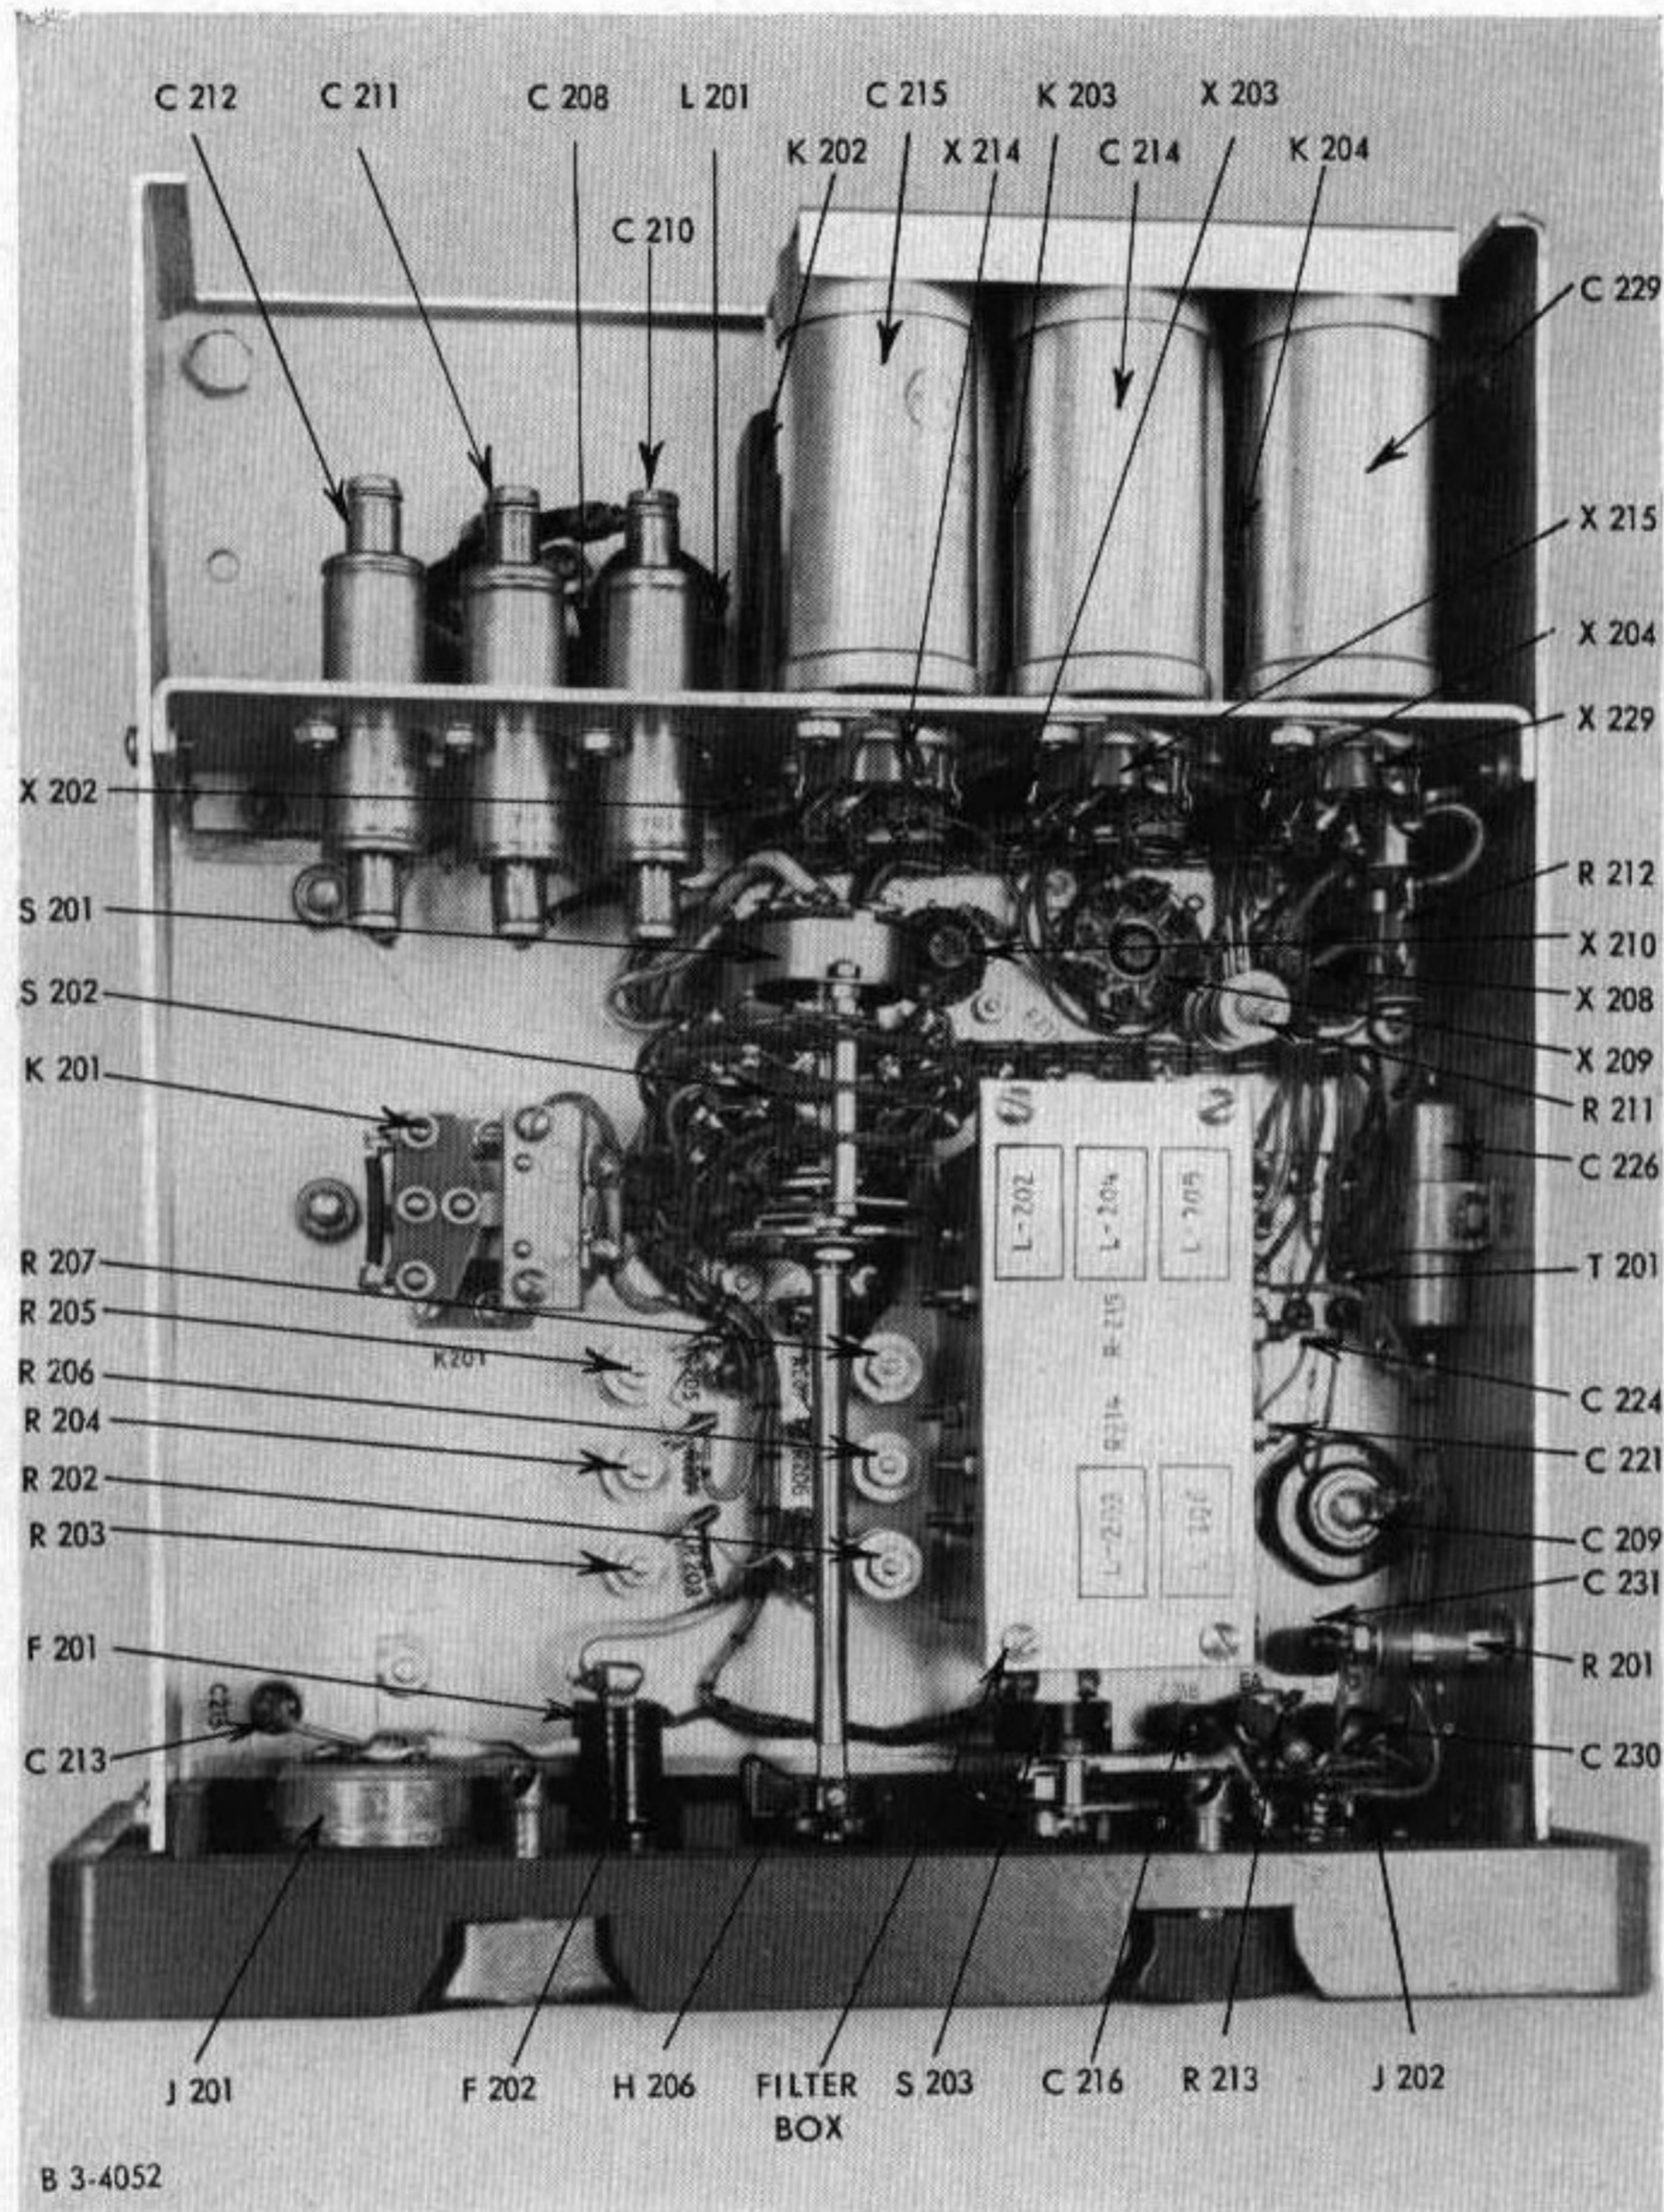
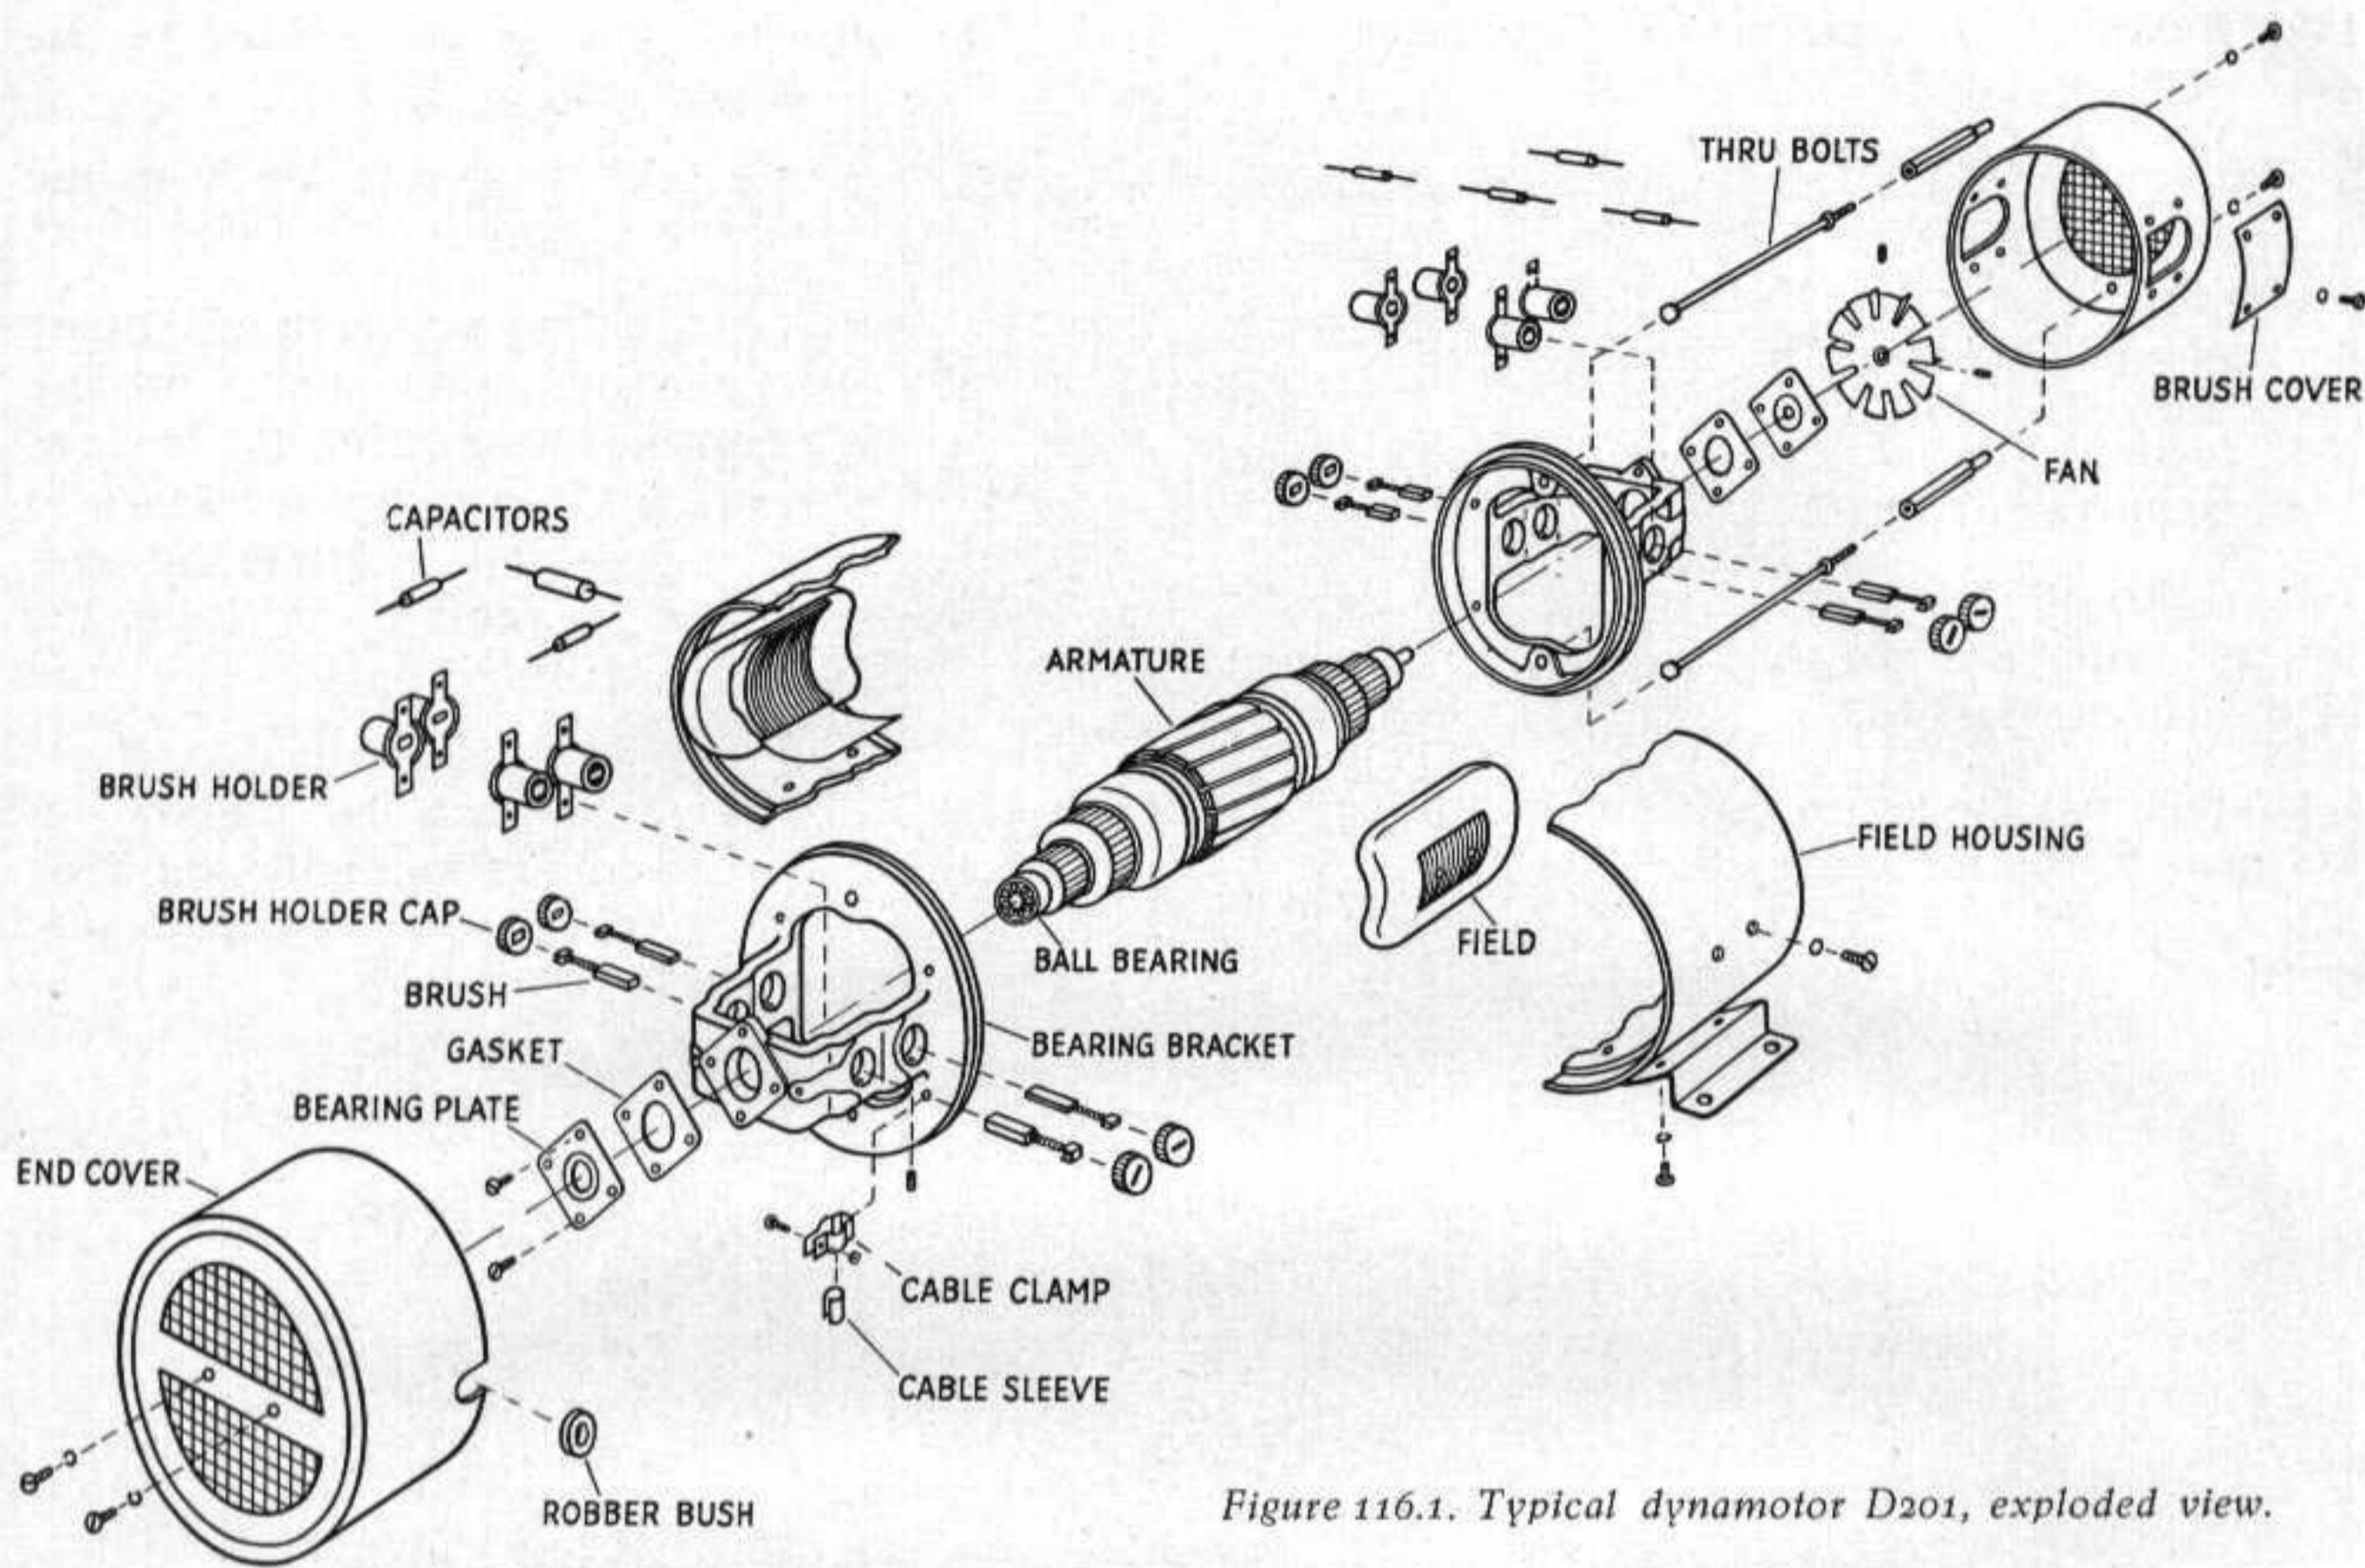

Figure 111. Dynamotor-Power Supply DY-88/GRC-9-GY, cover removed, bottom view.
Figure 116.1. Typical dynamotor D201, exploded view.
In order to trouble shoot the dynamotor power supply, it is necessary to remove the power supply from the case. Connect the power supply to a radio set known to be good. Set voltage selector switch control H206 (fig. 111) to the proper setting corresponding to the voltage of the battery to be used. Check the DYN FUSE. Be sure it corresponds to the voltage of the battery to be used as shown in paragraph 43 a. Note that the terminals on output receptacle J202 are numbered (fig. 111). These terminals are to be used to check the output voltage of the dynamotor power supply.
- (1) Disconnect the dynamotor wires at the under side of the chassis (fig. 111) by loosening the screws which hold the dynamotor wire spade lugs. Tag all wires before removal.
- (2) Remove the four screws and nuts which hold the dynamotor to the chassis.
- (3) Gently pull the dynamotor up off the chassis.
- c. Remove the screws which hold the front and rear covers to the dynamotor. Remove the covers (fig. 116.1).